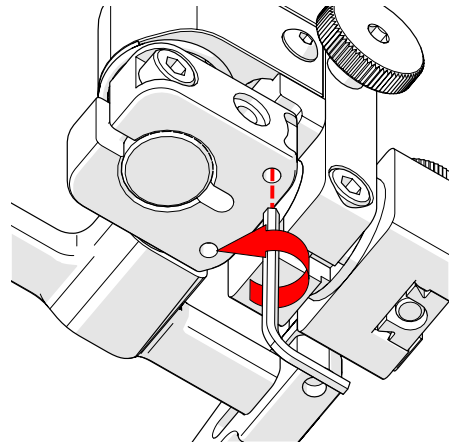

Fig. 80 - Lower 90° stop post
7. Locate the recessed M3 screw (*stop post*) on the bottom of the probe holder. Unscrew the stop post using a 1.5 mm hex wrench until it has cleared all obstructions. Do not remove the stop post (Fig. 80).